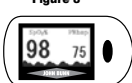

Figure 9
- Press the Power/Display Button once more; the screen will rotate -90° and also show pulse as a filled wave-form bar graph along bottom of screen, as shown in Figure 9.